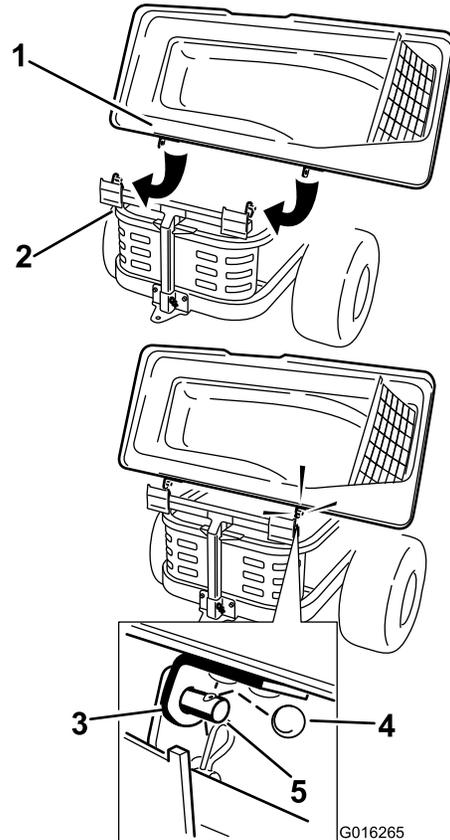

Figure 21
2. Slide the brackets over the posts in the bagger frame and install the circular cotter pin into the hole in the right hand post (Figure 21).